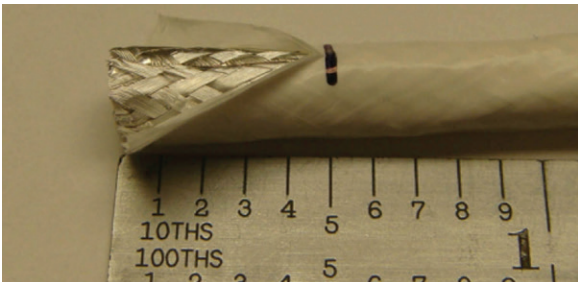

Figure 27: Slitting the cable jacket
3. Using a scalpel or scissors, slit the cable's jacket from the edge to the mark (Figure 27).